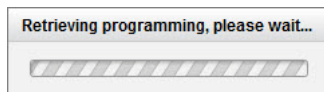

FIG. 23 Retrieving Information prompt
3. Once a file has been chosen to upload, the **Update Firmware** button is now enabled. Clicking on this button will start the *Update Firmware* process (FIG. 23).